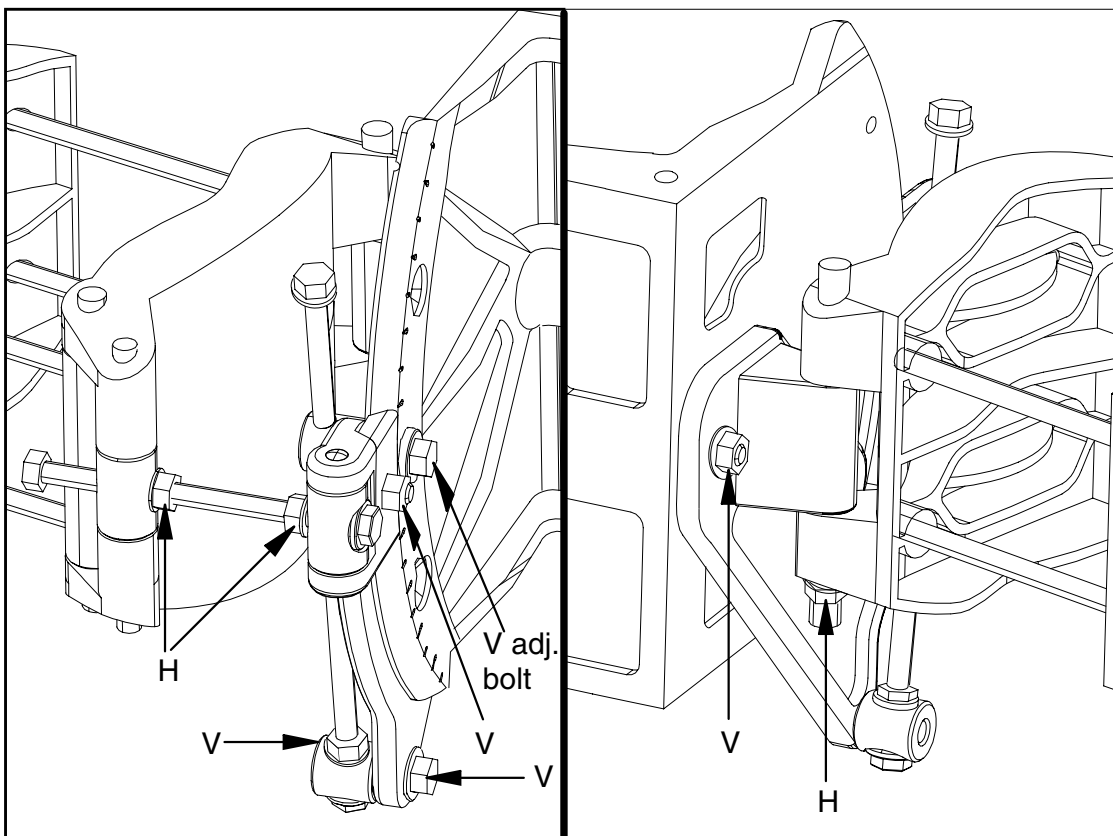

Figure 20. Locking nuts of the alignment unit
On the integrated alignment unit, vertical adjustment is set at the factory to the middle position. To set the vertical adjustment to $+25^\circ$ or -25° , loosen the vertical adjustment nuts (*V*) and take off the coarse vertical adjustment bolt (*V adj. bolt*). Turn the mounting plate $+25^\circ$ or -25° and reinstall the bolt (see Figure 20).
4. When the right alignment has been found, lock the moving parts together and lock the adjustment screws (see Figure 20). The torque is 20 Nm.